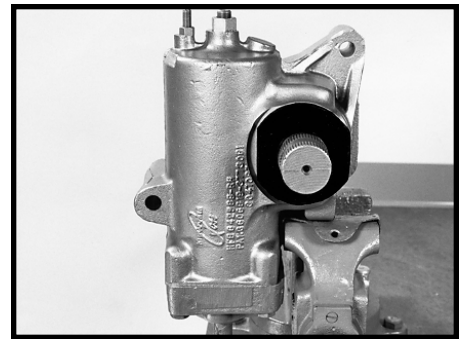
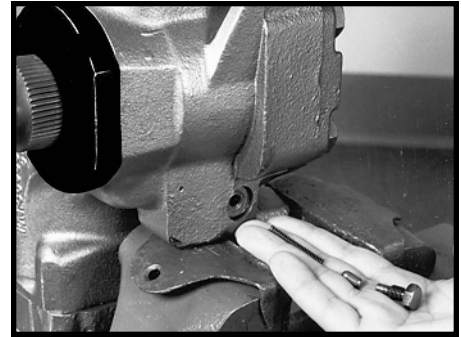

Figure 161
Figure 162
52. If your gear is equipped with the automatic bleed screw (20B), position the steering gear so that the cylinder bore axis is vertical and the input shaft is pointing down. SEE FIGURE 161. Then, install the spring (20D), the special pin (20C) spherical end first, and the automatic bleed screw (20B) into the housing. SEE FIGURE 162. Torque the screw to 16-20 ft. lbs. (22-27 N m). 1/2 inch hex or E-10 Torx socket required.
WARNING: DO NOT LOOSEN OR REMOVE THE AUTOMATIC BLEED SCREW (20B) (SEE FIGURE 162) WHEN THE STEERING GEAR IS MOUNTED ON THE VEHICLE. IF IT IS LOOSENED OR REMOVED, THERE MAY BE A LOSS OF POWER STEERING ASSIST IN ONE DIRECTION OF TURN. THE AUTOMATIC BLEED SCREW CAN BE IDENTIFIED BY ITS 1/2” HEX HEAD OR E-10 TORX HEAD. IF AUTOMATIC BLEED SCREW COMPONENTS ARE INADVERTENTLY REMOVED, INSTALL THE SPRING, THEN THE SPECIAL PIN, SPHERICAL END FIRST INTO HOUSING. ASSEMBLE AND TORQUE BLEED SCREW TO 16-20 FT. LBS. (22-27 N M).